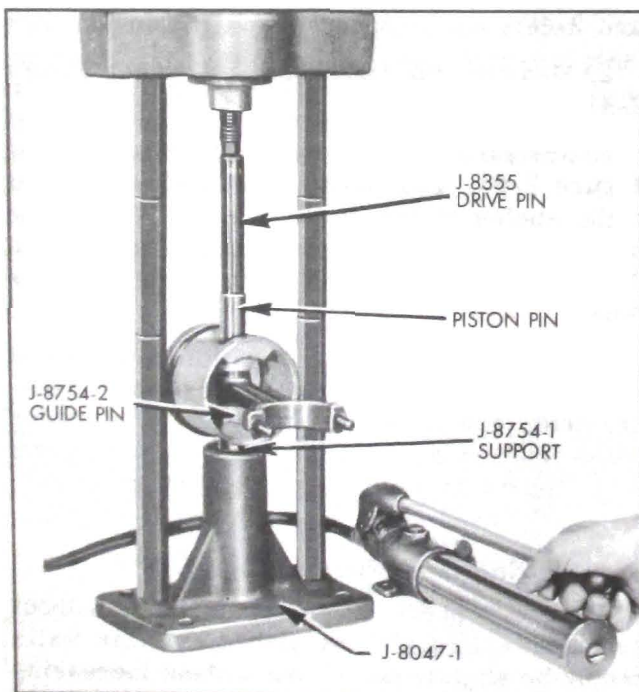

Figure 2-48—Installing Piston Pin
1. To assemble piston and pin to connecting rod, assemble press as shown in Figure 2-48 with full radial face of support J-8754-1 "up".